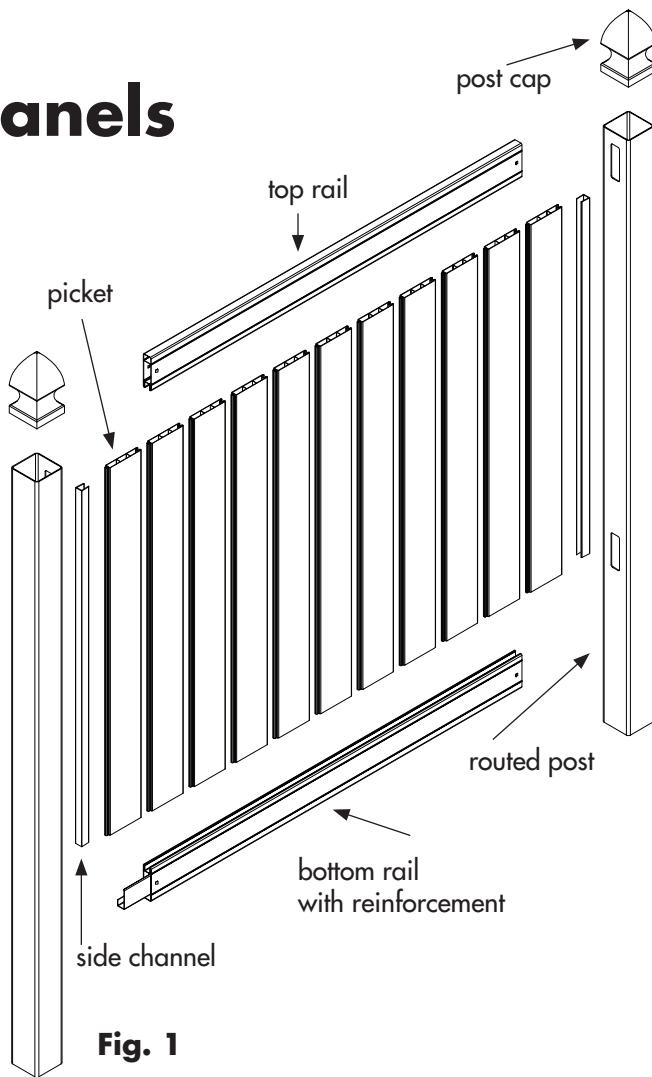

Fig. 1
- Insert a post into the hole. Level and adjust height as needed using gravel. Do NOT place posts permanently at this point. Use bracing and shims as needed. Slide the reinforced bottom rail into the pre-cut post, locking into place with the notched tabs (Fig. 1).